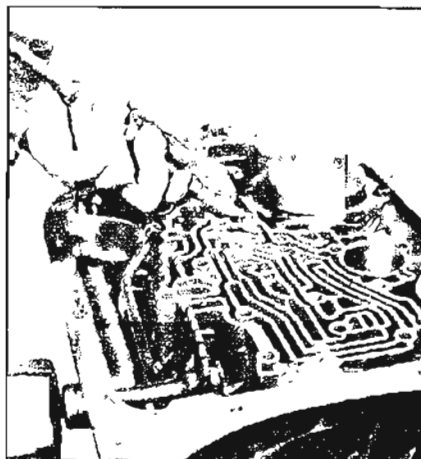

Figure 5-720
6. Air check piston to make certain seal has not been damaged. See Figure 5-720.